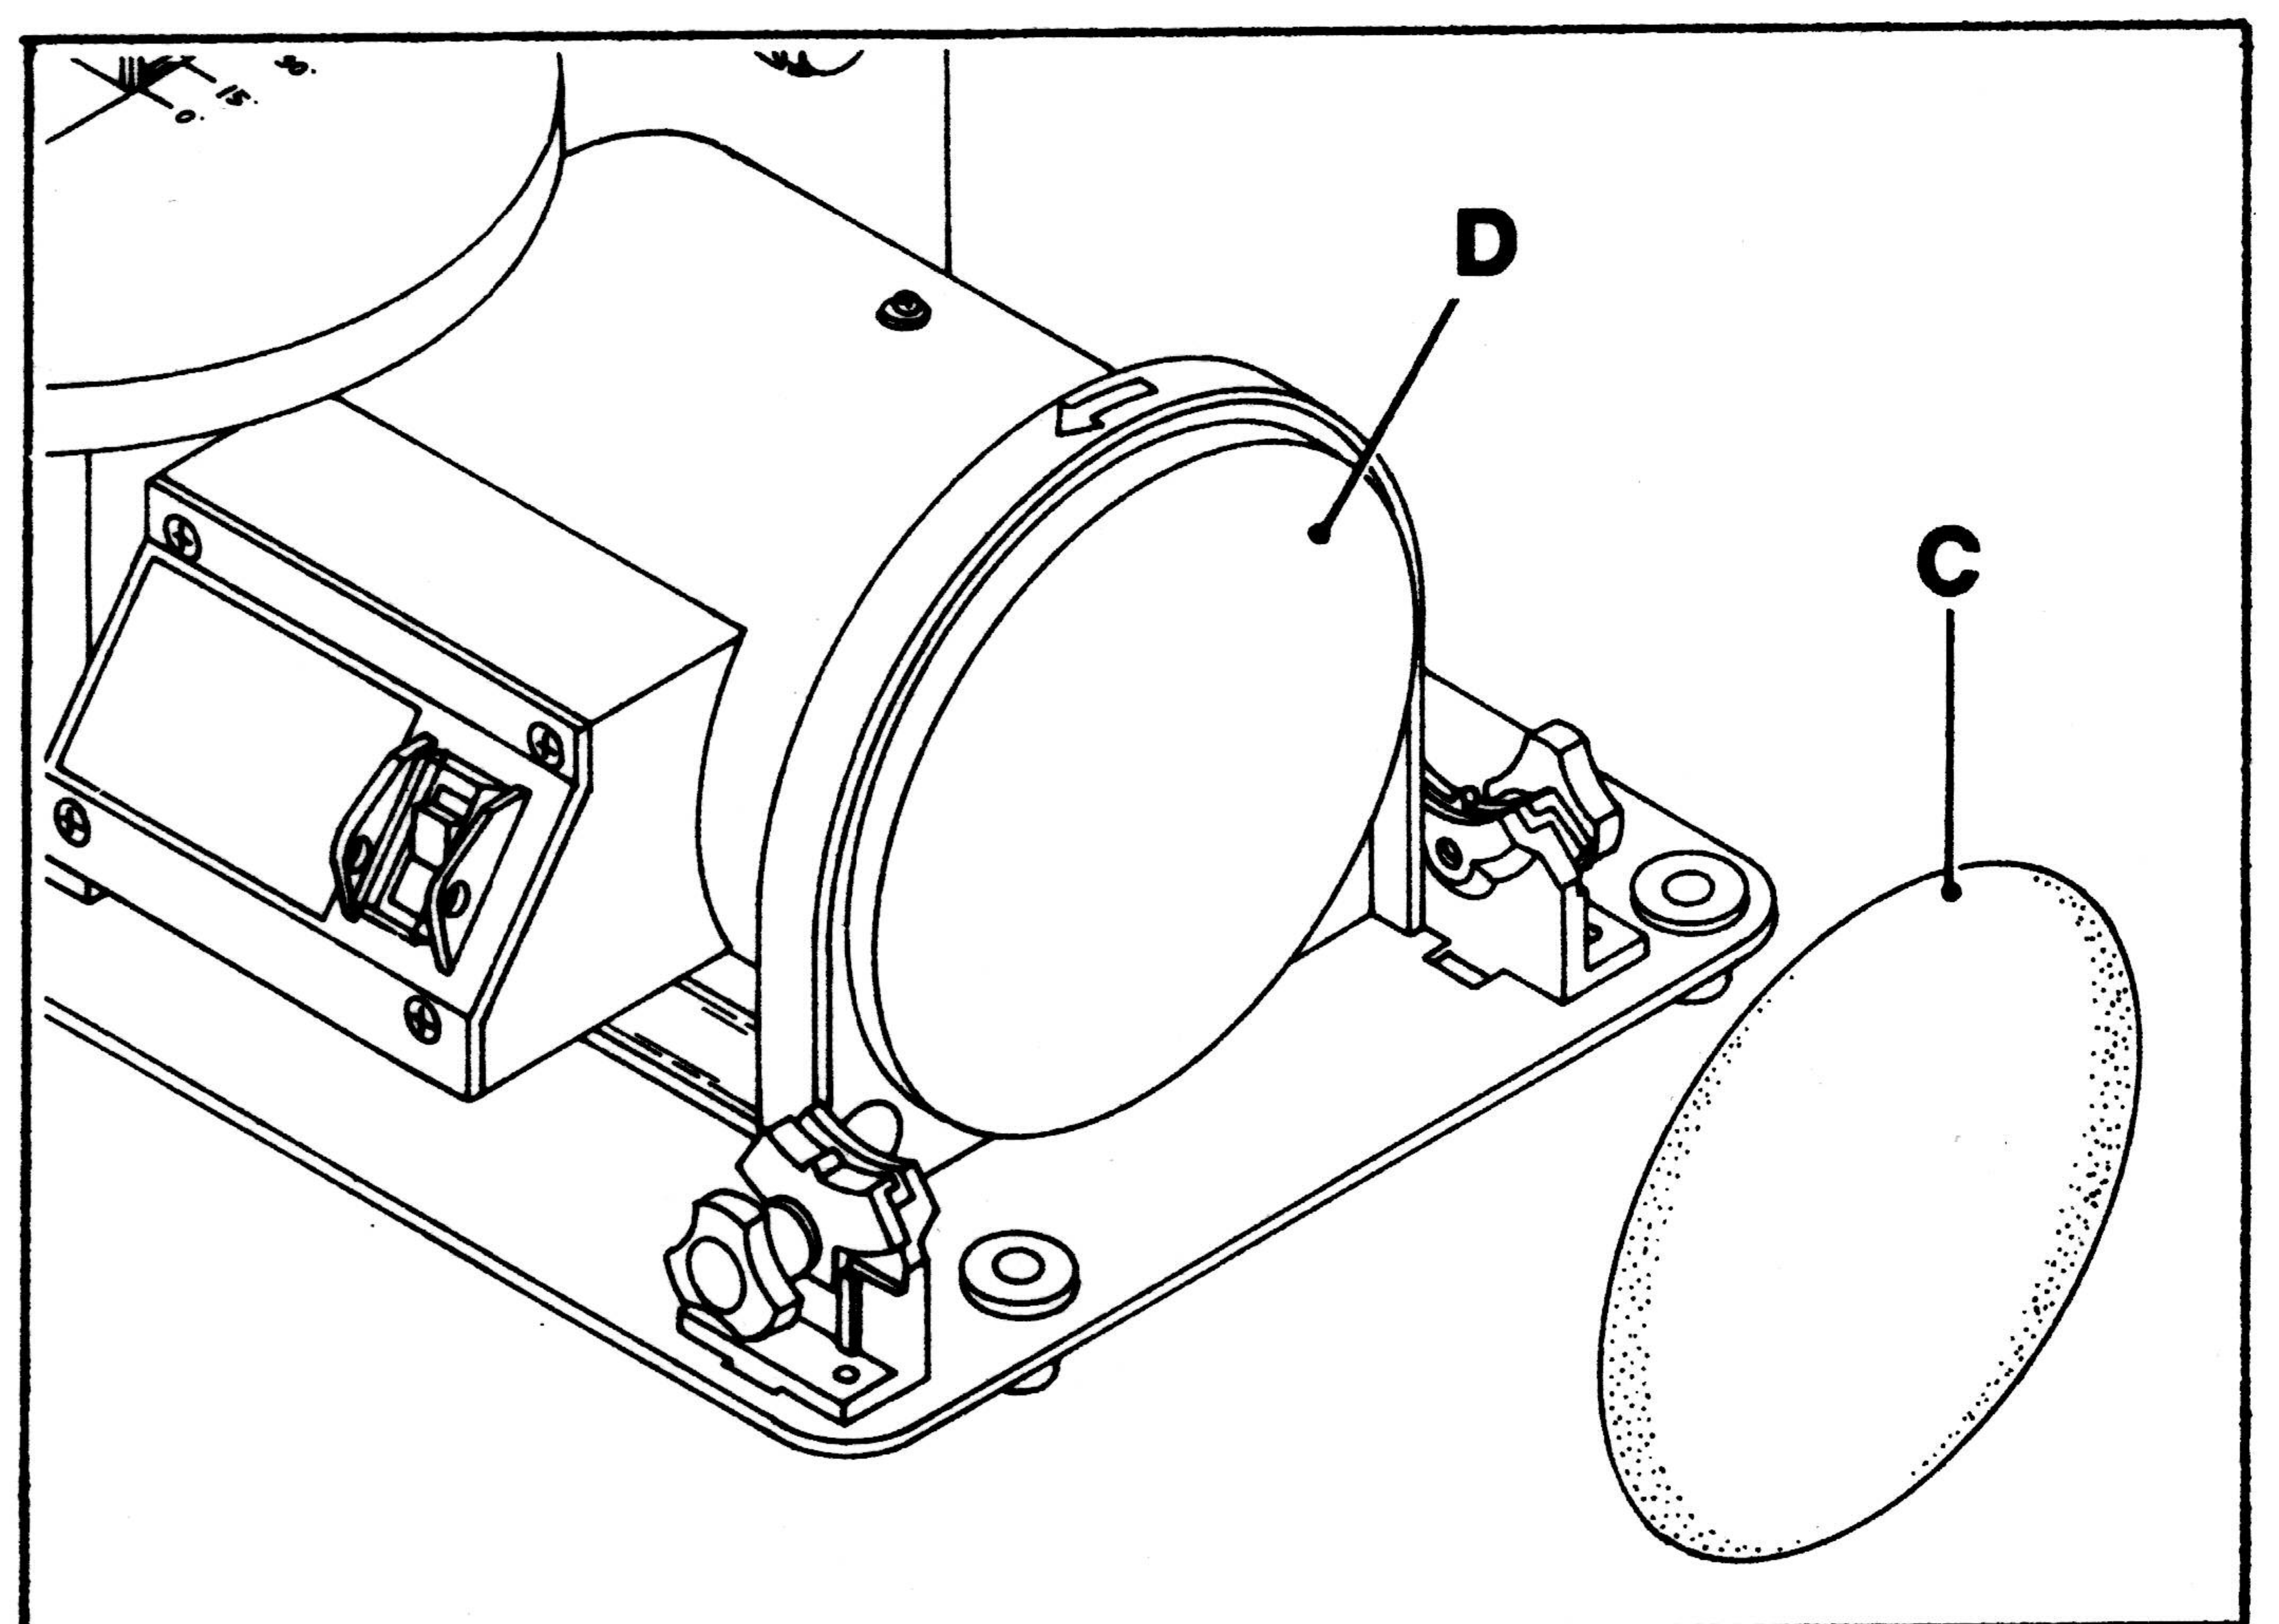

Fig. 20
1. To remove disc (C), work the edge of disc back and then peel it away from the backing plate (D) Fig. 20.
3. Remove protective back from new disc and carefully center disc (C) on backing plate (D) and replace table.